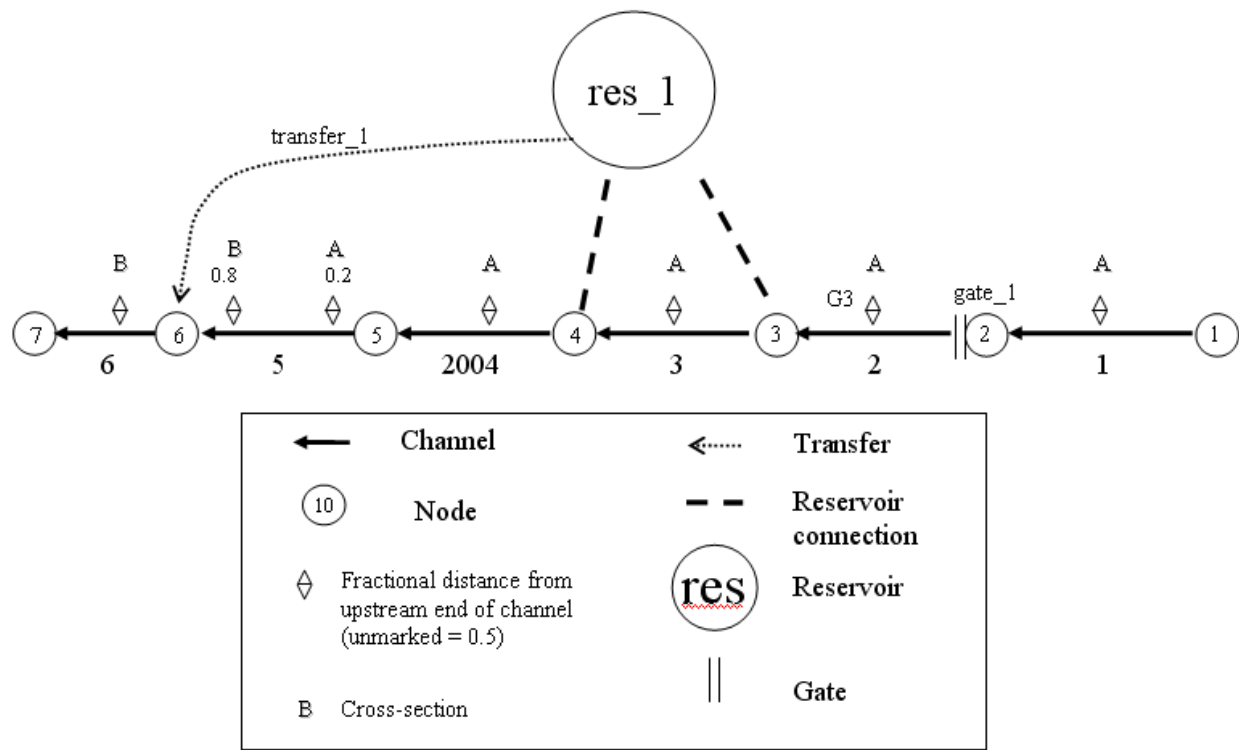

Figure 2 - Simple channel with a new reservoir, gate, and transfer.
- e. Note from Figure 2 that the reservoir has two connections; one at Node 3, and one at Node 4. These will go in a child table called **RESERVOIR_CONNECTIONS**. The header has the following form:.
- a. Now we are going to create the **GATE** table and its child table **GATE_DEVICE**. Note from Figure 2 that the gate is located at Node 2 of Channel 2. This gate consists of both a weir and a pipe. Therefore, two rows of information will be needed for the *GATE_DEVICE* table.